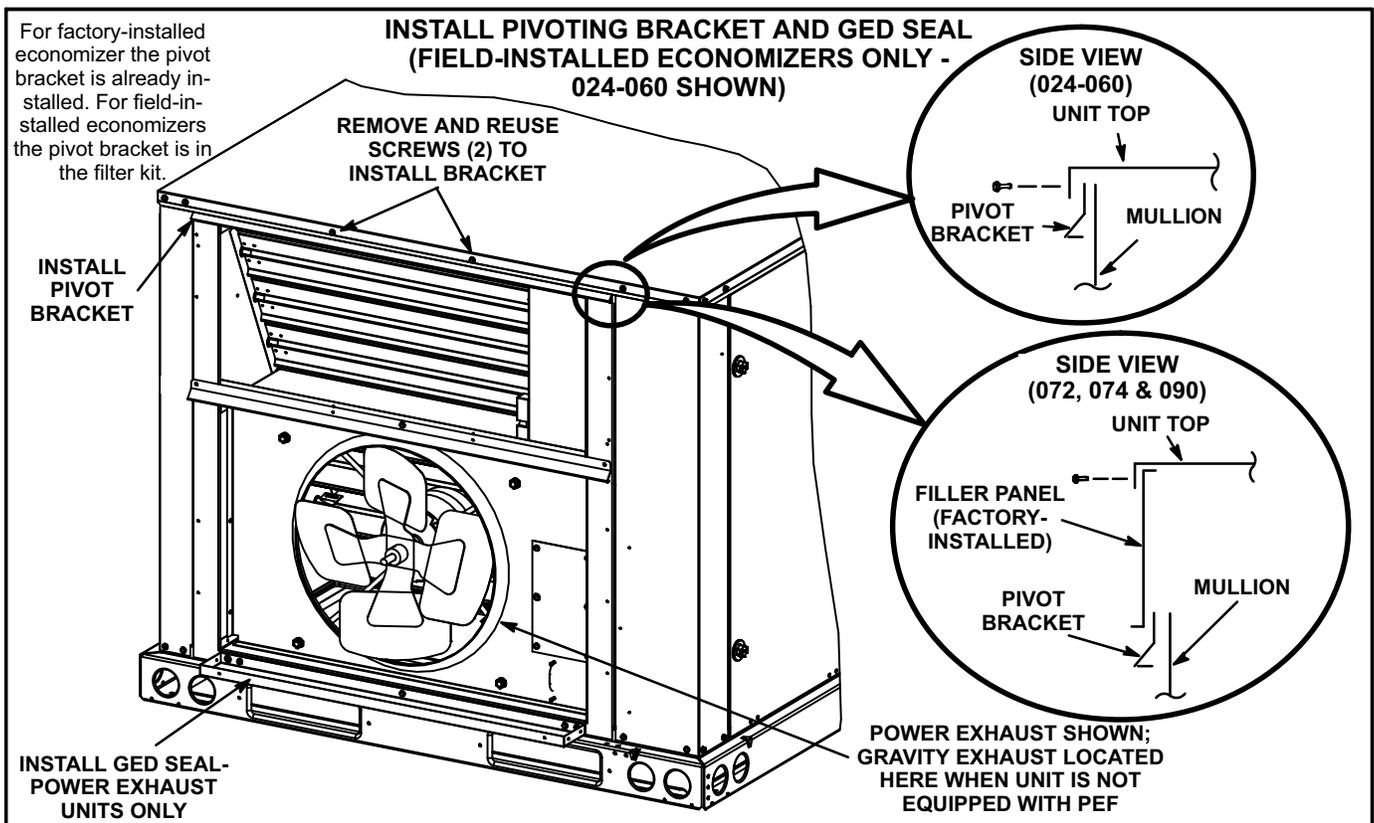
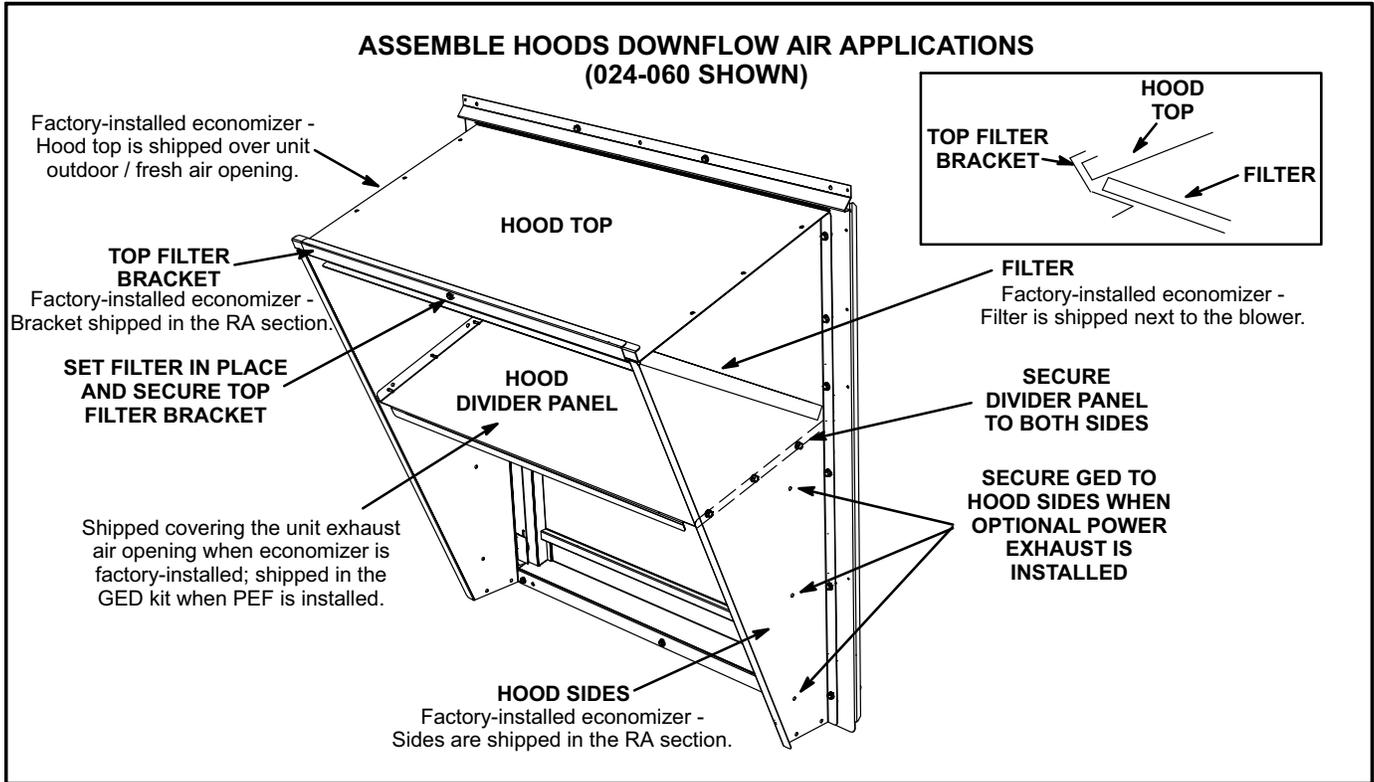

FIGURE 11
FIGURE 12
- 2- Install the power exhaust fans and GED seal in the unit. See figure 11 and the power exhaust instructions. See the next section to install the outdoor/exhaust air hood. Install the GED in the lower/exhaust hood. See figure 12.
- 2- Install pivot bracket as shown in figure 11.
- 3- Assemble hood as shown in figure 12. Slide top of hood into the ends of pivot bracket. Install top filter bracket after filter is in place.